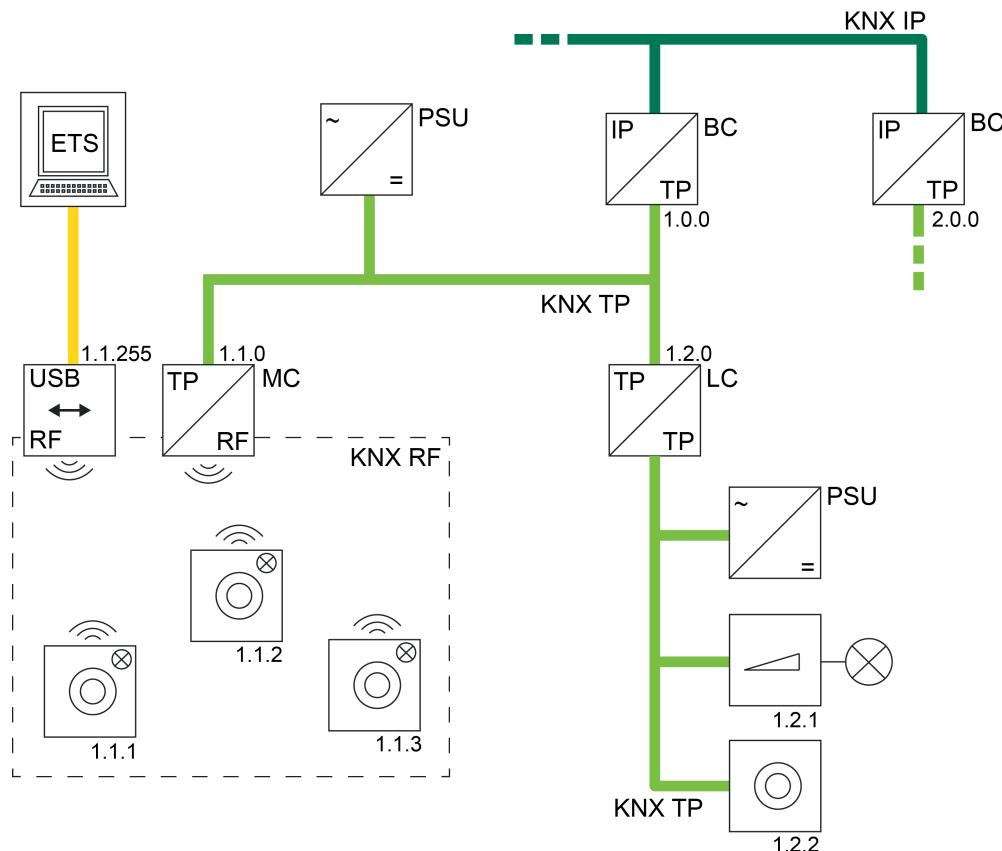

Figure 42: Example of a possible KNX topology with a KNX RF USB data interface
- Use of a KNX RF USB data interface (Figure 42):